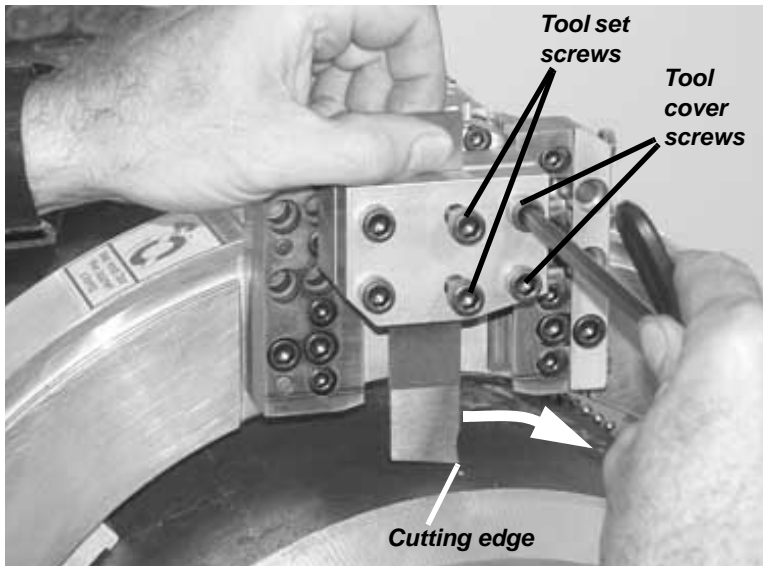

Figure 5-29. Installing the parting tool with the cutting edge in the cutting direction as shown.
1. To install parting tools, loosen the 2 tool set screws and the 4 tool cover screws. Insert the tool as shown in Figure 5-29.